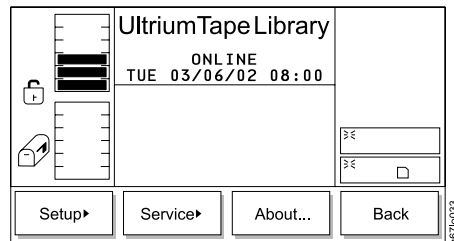

Figure 150. Main Menu (alternate screen)
1. From the Main Menu's initial screen, press the button below the **More** softkey. The Main Menu's alternate screen displays (see Figure 150).